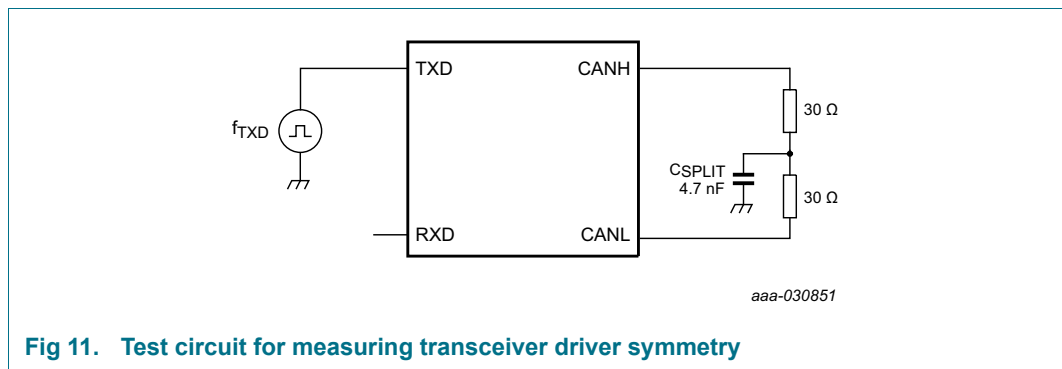

Fig 11. Test circuit for measuring transceiver driver symmetry
- [4] The test circuit used to measure the bus output voltage symmetry (which includes C_{SPLIT}) is shown in Figure 11.
- (1) Standby Mode: CAN Offline mode, $V_{BAT} = 12\text{ V}$, $I_{V1} = 0\text{ }\mu\text{A}$.
- (2) Sleep mode: CAN Offline mode, $V_{BAT} = 12\text{ V}$.